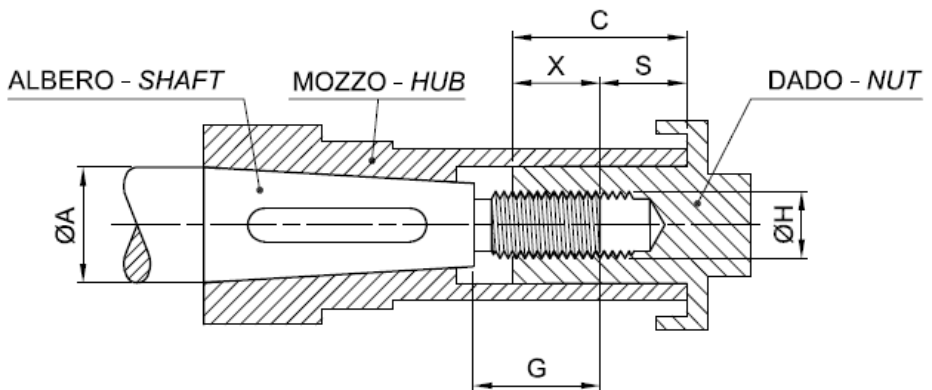

fig. 1
- c. Check the screwing length of the nut (refer to fig.1 where the screwing length is indicated with "X"). To check this we suggest inserting the propeller onto the conical end of the propeller shaft and pushing it against the cone of the shaft (carry out this operation without inserting the key). When the propeller is against the shaft cone, measure the distance between the end of the shaft and the end of the hub (indicated in the figure with "S"). The length "X" is obtained by subtracting the length "S" from the length of the nut "C". "X" must be less than "G" and it is recommended that "X" is greater than 0.8 times the thread diameter indicated with " $\varnothing H$ ".